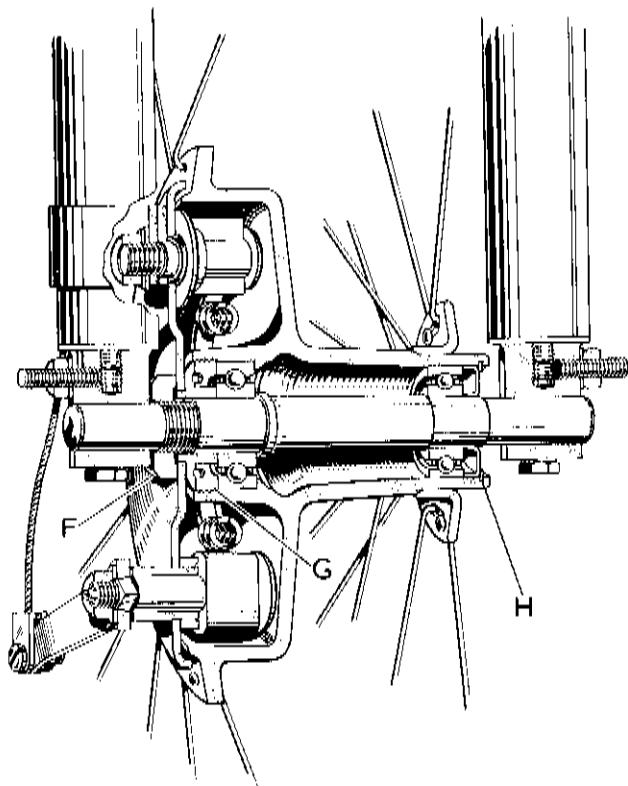

Fig. D30.
Unscrew the large nut (F) Fig. D30 on the spindle. This will be facilitated if the brake is applied by using a short length of tubing, such as a box spanner, over the brake arm.
Make sure that the cover plate nut (F) Fig. D30 is securely tightened, engage the torque arm bolt of the cover plate in the clip on the right-hand fork leg and replace the fork end clips. Before finally tightening the clip bolts pull the wheel towards the right hand fork leg.